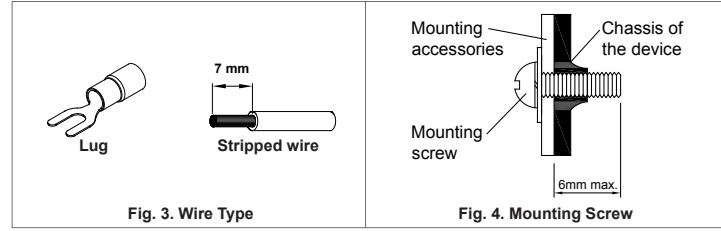

Fig. 3. Wire Type
- Use flexible cable (stranded or solid), AWG No. 20-14. The torque at the Connector shall not exceed 13 Kgf.cm. The insulation stripping length should not exceed 0.275" or 7mm (Refer to Fig. 3).